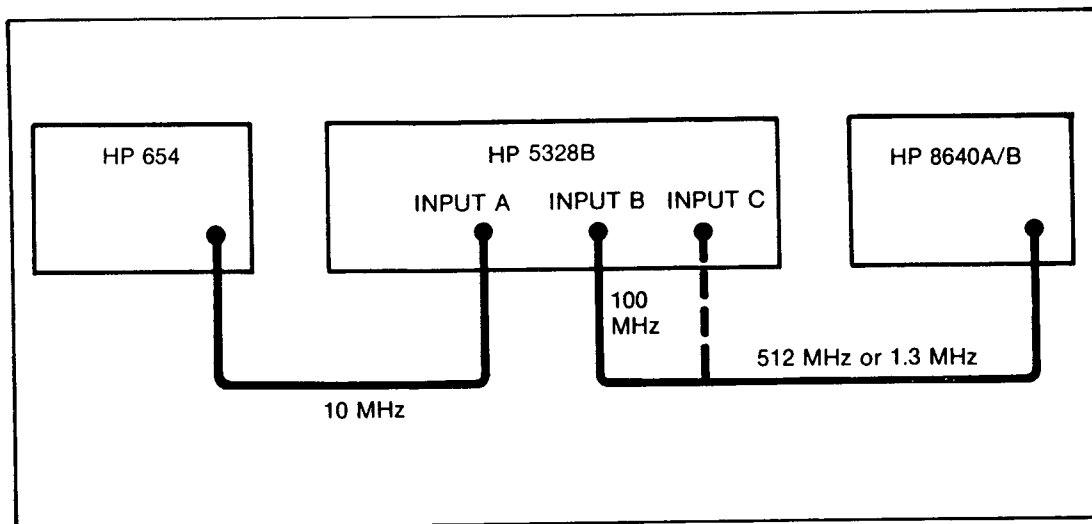

Figure 4-13. Ratio Measurement — Test Setup
- a. Set up equipment as shown in *Figure 4-13*.